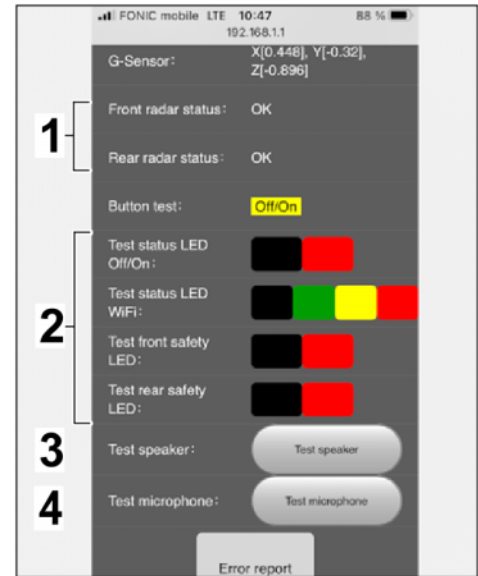

Figure 27
6.3 Display of radar status, possible tests for LED lights, loudspeaker and microphone (⇒ Figure 27)